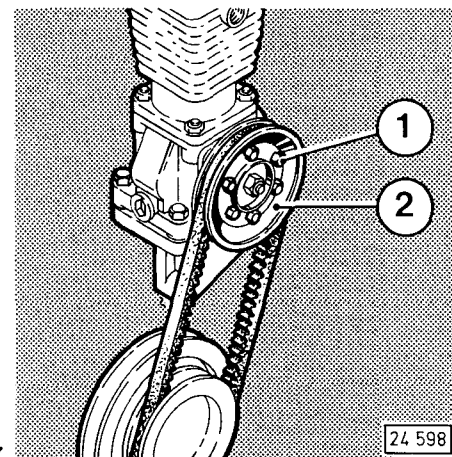

Fig. 47
- Unscrew hex. bolts 1 (Fig. 47).
- Retighten bolts 1 (Fig. 47) while turning over the engine with the turning device to prevent the belt being squeezed.